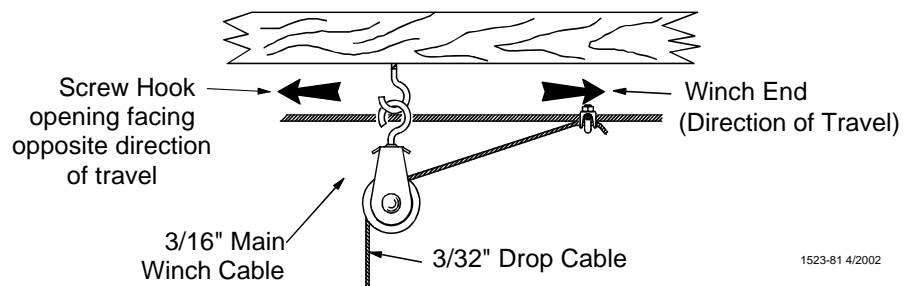
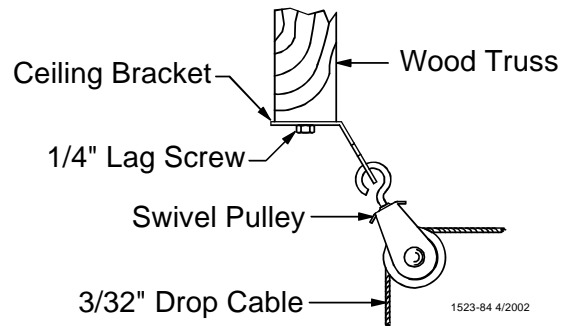

Figure 13. Screw Hook Installation
Figure 17. Pulley Installation
The openings of the screw hooks must be pointed away from the direction of travel when the Power Winch raises the feeder line. See **Figure 13**.
6. After securing the Ceiling Hook to the truss, slide the hook of a Swivel Pulley into the slot, as shown in **Figure 17**.
2. Thread the end of the 3/32" or 1/8" cable through the pulley toward the winch. Clamp this end to the 3/16" winch cable about 6" [150 mm] from the last pulley, using a 3/16" cable clamp. See applicable figure; **Figure 13** or **Figure 17**.